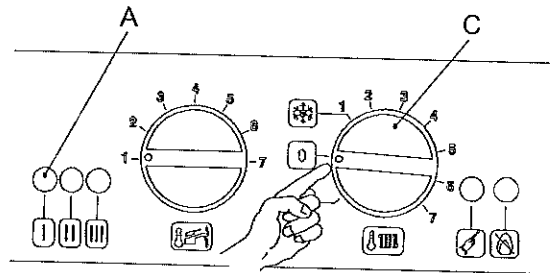

Figure 6.2
- This indicates that the safety lock-out 1 (Fig. 6.2) has stopped the boiler
- To re-start the boiler, it is necessary to turn the function selector B in the position 0 and then press the boiler reset button 2 (Fig. 6.2).